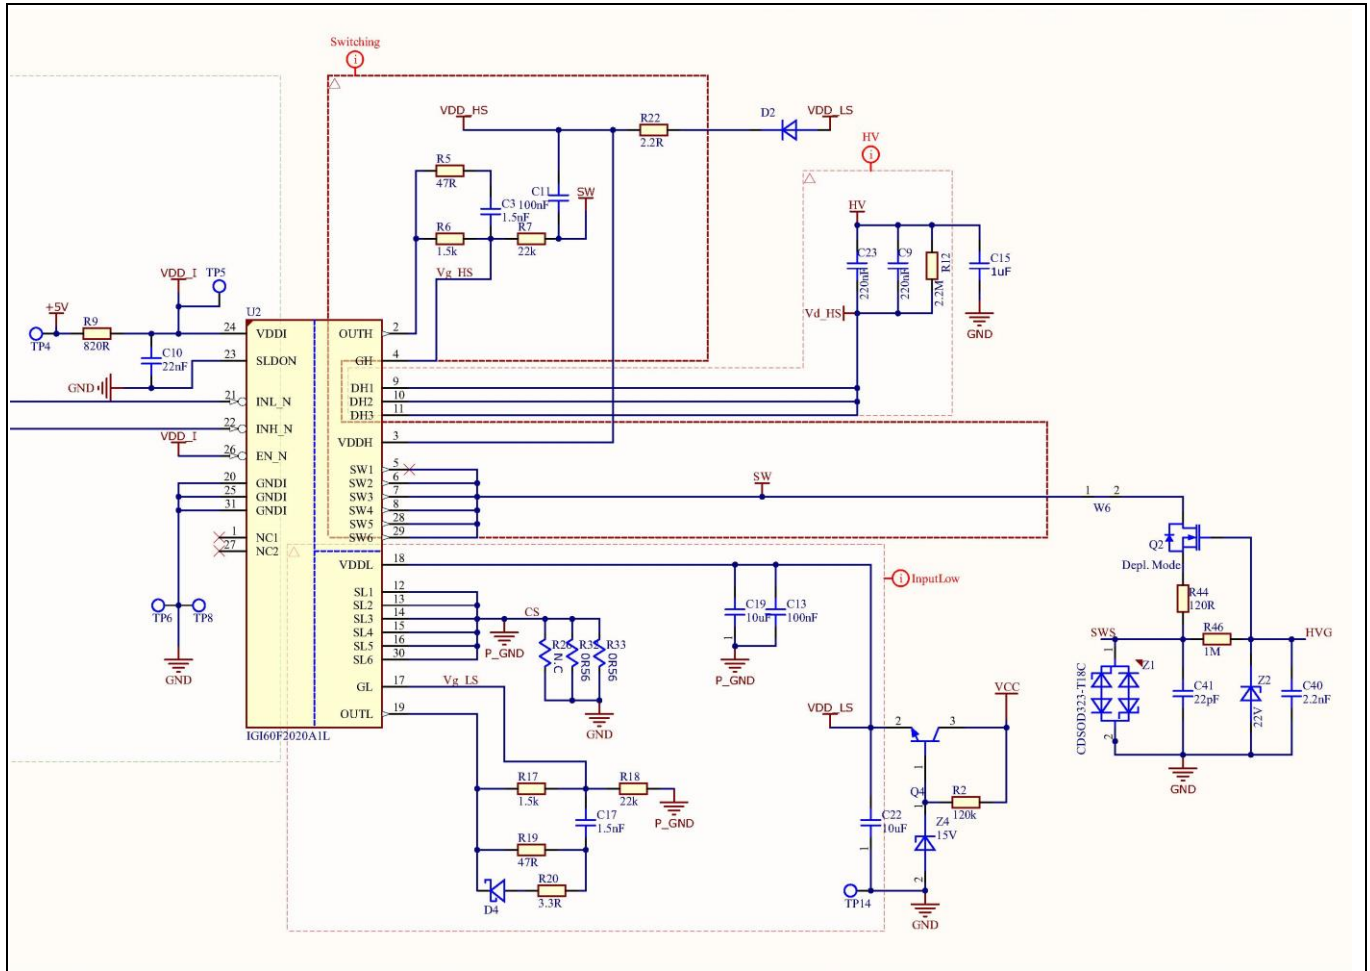

Figure 7 CoolGaN™ IPS circuitry in ACF adapter topology
**Figure 7** shows the circuitry around the CoolGaN™ IPS half-bridge IGI60F2020A1L in this evaluation board. The ACF controller drives the logic inputs of the IPS chipset. In this application, the 3.3 V regulator inside the IPS is activated by pulling down SLDON pin 23, and the 5 V reference ACF controller is used to supply the VDDI pin through the shunt resistor (R9). The R9 value will provide about 2 mA supply to the VDDI pin, which is sufficient to operate the chipset in this application.